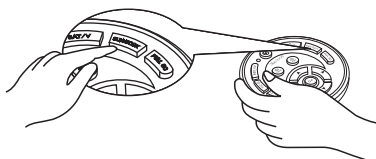

Figure 3
4. Press DOCKING in the remote control if you want to charge the main unit, the Cleaner will search for the Docking Station for charging within the available distance automatically. (Refer to Figure 3)